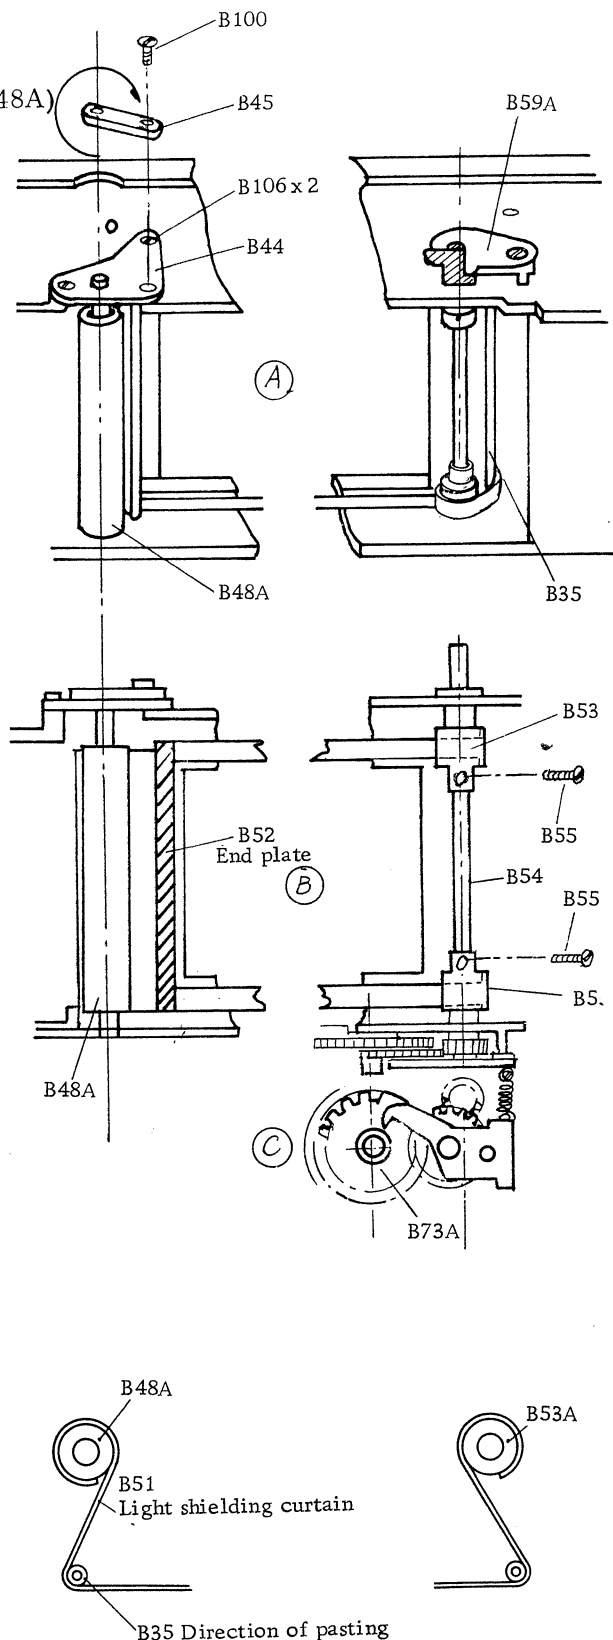

Fig. 11 Apply adhesive to 3/4 (270°) of the circumference.
- A. First, supporting the light shielding curtain (B48A) shaft with the shaft hole on the bottom plate and the shaft holding plate (B44), secure the shaft with screws (B106, 2 each). (Fig. 11 (A))
- B. Next, install the light shielding curtain wind shaft (B54) on the main body together with the curtain installation rings (B53, 2 each), and secure the rings on the shaft (B54) with the screws (B55, 2 each). (Fig. 11 (B))
- C. Apply adhesive to both ends of the curtain (overlaps for adhesive in both ends of the curtain), covering 270° of the curtain installation ring circumference, at the position where the gear (B73A) stops during turning toward the arrow mark direction shown in the Fig. 11 (C), and paste up both ends of the curtain on the curtain installation rings (B53). With the light shielding curtain faced inward, install the guide rollers (B35, 2 each) on the main body.
Fit the shaft holder stopper (B45) to the shaft (B48A), and turning it to the right, provide 2.5 to 3 turn overlaps. Tighten the shaft holder stopper (B45) with the screw (B100), and make sure that the curtain is wound and rewound smoothly. (Fig. 11 (A))